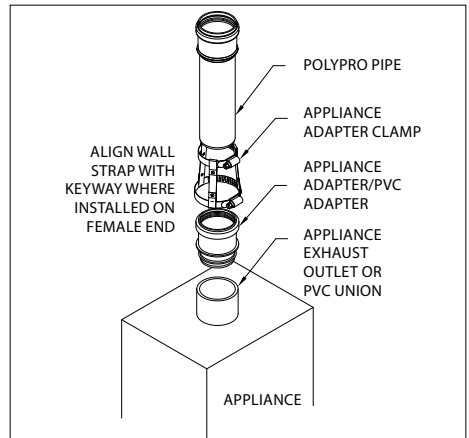
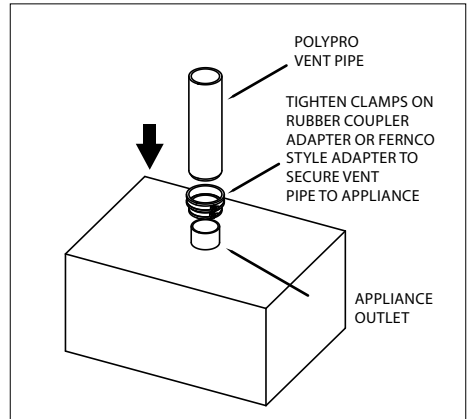

Figure 4
Figure 4A
1. Connect PolyPro vent pipe to the appliance. Use the Appliance Adapter/ PVC Adapter and Clamp to connect PolyPro vent to the appliance. Slide the male end of the Appliance Adapter into the appliance outlet. Place the Appliance Adapter Clamp over the Appliance Adapter and then slide the male end of the PolyPro vent pipe into the Appliance Adapter. Tighten both hose clamps on the Appliance Adapter Clamp to ensure the connection is secure (**Figure 4**).
If the appliance has a rubber boot or Fernco-style appliance adapter on its outlet, then the PolyPro vent pipe may attach directly to the rubber coupler adapter or Fernco adapter without needing the Appliance Adapter, by tightening the clamping bands (**Figure 4A**). Additionally, the Appliance Adapter/ PVC Adapter can be used to transition from PVC vent pipe to PolyPro, if needed. Install the vent pipe system with the female end (with the internal gasket) up, away from the appliance. The Appliance Adapter is designed to provide a drip-free connection for most appliance outlets. If the appliance has a PVC union for its outlet, the Appliance Adapter also functions as a PVC Adapter to transition from PVC to PolyPro pipe (**Figure 4**). The PVC Adapter requires a standard PVC union to make the transition to PolyPro pipe; if a straight length of PVC pipe is on the appliance outlet, add a PVC union before connecting the Appliance Adapter. Secure the connection by tightening the hose clamps on the Appliance Adapter Clamp.